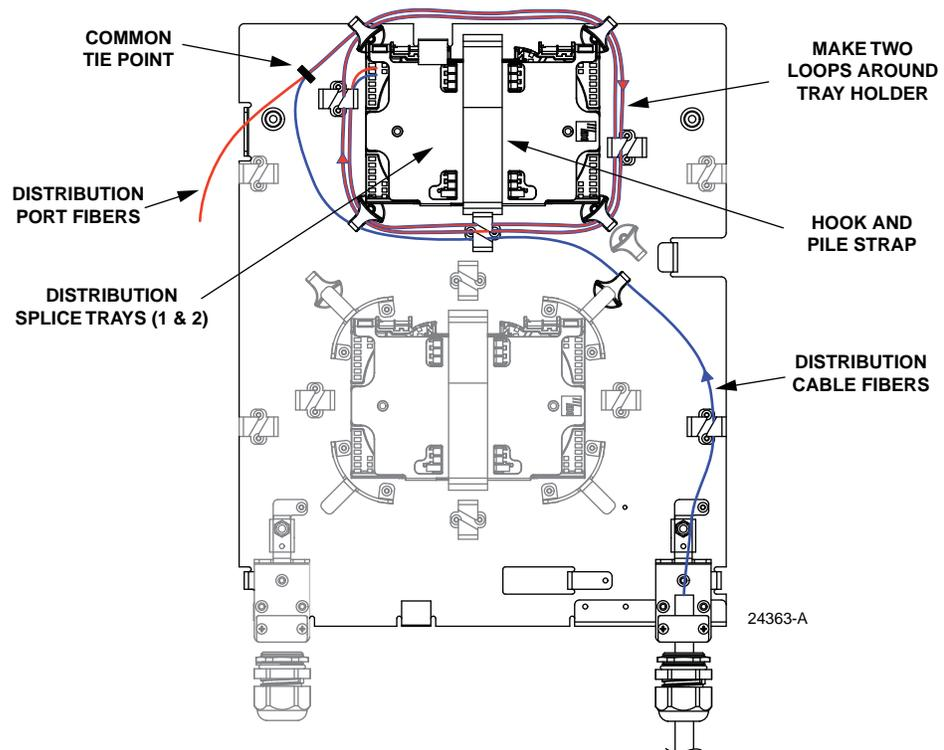
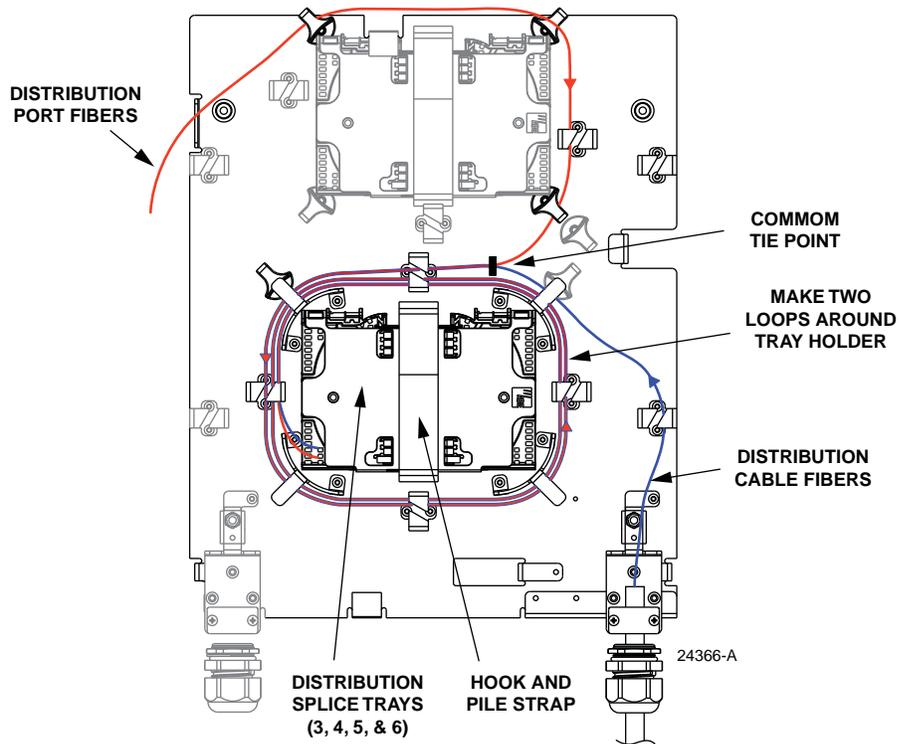

Figure 38. Top-Mounted Distribution Splice Tray Installation
Figure 39. Bottom-Mounted Distribution Splice Tray Installation
6. Re-install the each splice tray in the cabinet. The routing for top-mounted splice trays is shown in Figure 38 and the routing for bottom-mounted splice trays is shown in Figure 39. Avoid twisting or kinking the fiber subunit tubes. Maintain a 1.5-inch (3.81 cm) minimum bend radius for all non reduced bend radius fiber.
6. Route the distribution port fibers and distribution cable subunits (see Figure 38) two times around the splice tray holder and then re-install the each splice tray in the cabinet. Avoid twisting or kinking the fiber subunit tubes. Maintain a 1.5-inch (3.81 cm) minimum bend radius for all non reduced bend radius fiber.